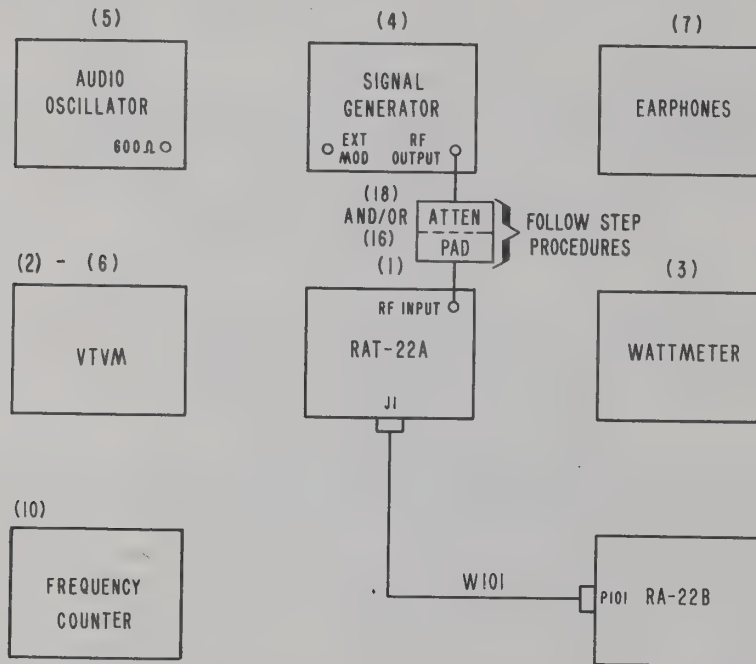

Figure 3-5. Adjustment and Bench Setup.
- (1) Disable normal receiver squelch by removing transistor Q407, and connect equipment as shown in figure 3-5 using 6 db pad (16) only.
- (2) Adjust receiver and signal generator (4) to 114.90 mc; set signal generator (4) for 1000 μ v output modulated 30% at 30 cps.
- (3) Turn power on and adjust avc delay control R403 for 0.5 vac output. Lock R403.
- (4) Adjust receiver and signal generator (4) to 118.90 mc and rotate SENS control R415 fully clockwise.
- (5) Connect signal generator (4) through 6 db pad (16) and attenuator (18) to the RF input of RAT-22A Test Set.
- (6) Set attenuator (18) for an attenuation of 20 db.
- (7) Rotate the squelch adjust potentiometer R14, on right side of super squelch, fully clockwise and connect DC probe of vtm (2) to TP1 of super squelch.
- (8) Adjust L4 and L5 on super squelch sub-assembly for minimum reading on vtm (2).
- (9) Set output of signal generator (4) to 10 microvolts c-w, and adjust for minimum reading on vtm (2).
- (10) Rotate squelch adjust potentiometer R14 counterclockwise and verify that it is possible to squelch receiver output.
- (11) Rotate squelch adjust potentiometer R14 until the receiver just mutes.
- (1) Connect equipment according to the setup shown in figure 3-5.
- (2) Connect wattmeter (3) to WATTMETER connector on test set (1).
- (3) Adjust test set FREQUENCY SELECTOR for 114.9 mc.
- (4) Adjust signal generator (4) for 114.90 mc, 1000 μ v, 30 percent modulation at 1000 cps.
- (5) Set meter selector switch on test set (1) to AUDIO POWER OUTPUT.
- (2) Connect a-c vtvm (6) to test set NAV-ATCSS connector.
- (3) Adjust test set FREQUENCY SELECTOR for 118.90 mc.
- (4) Adjust signal generator (4) for 118.90 mc, 5 μ v at 30 percent modulation, at 1000 cps.
- (5) Turn REMOTE SQUELCH CONTROL on test set (1) fully counterclockwise.
- (1) Connect equipment as shown in figure 3-5. Connect audio oscillator (5) to signal generator (4).
- (2) Adjust test set FREQUENCY SELECTOR for 114.90 mc.
- (3) Connect a-c vtvm (6) to test set NAV ATCSS terminal.
- (4) Set audio oscillator (5) for 30 cps.
- (5) Adjust signal generator (4) for 114.90 mc, 1000 μ v, 30 per cent modulation.
- (6) Adjust avc delay potentiometer R403 for 0.5 volt ac on a-c vtvm (6) and lock R403.
- (7) Adjust signal generator output for 5 μ v, 100 μ v, 1 mv, 50 mv, and 100 mv levels in sequence. Record db reading at each voltage level. The difference between the minimum and maximum db readings should not exceed 1.5 db.
- (1) Connect equipment as shown in figure 3-5. Audio oscillator (5) should be disconnected.
- (2) Connect wattmeter (3) to WATTMETER connector on test set (1) and set INTERNAL-EXTERNAL switch on test set (1) to EXTERNAL.
- (3) Adjust test set FREQUENCY SELECTOR for 114.90 mc.